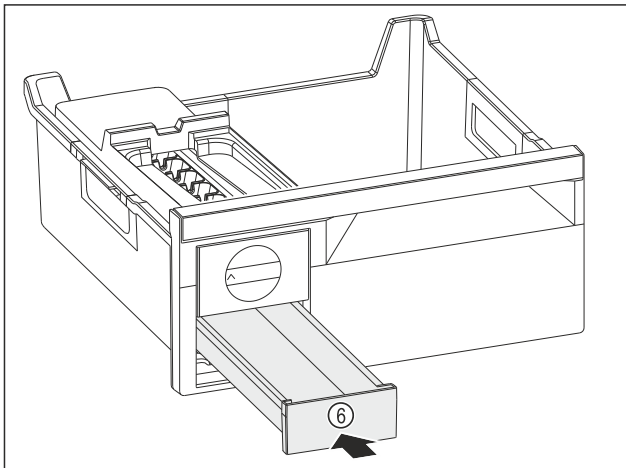

Fig. 170
- Insert the ice cube tray *Fig. 170 (6).*